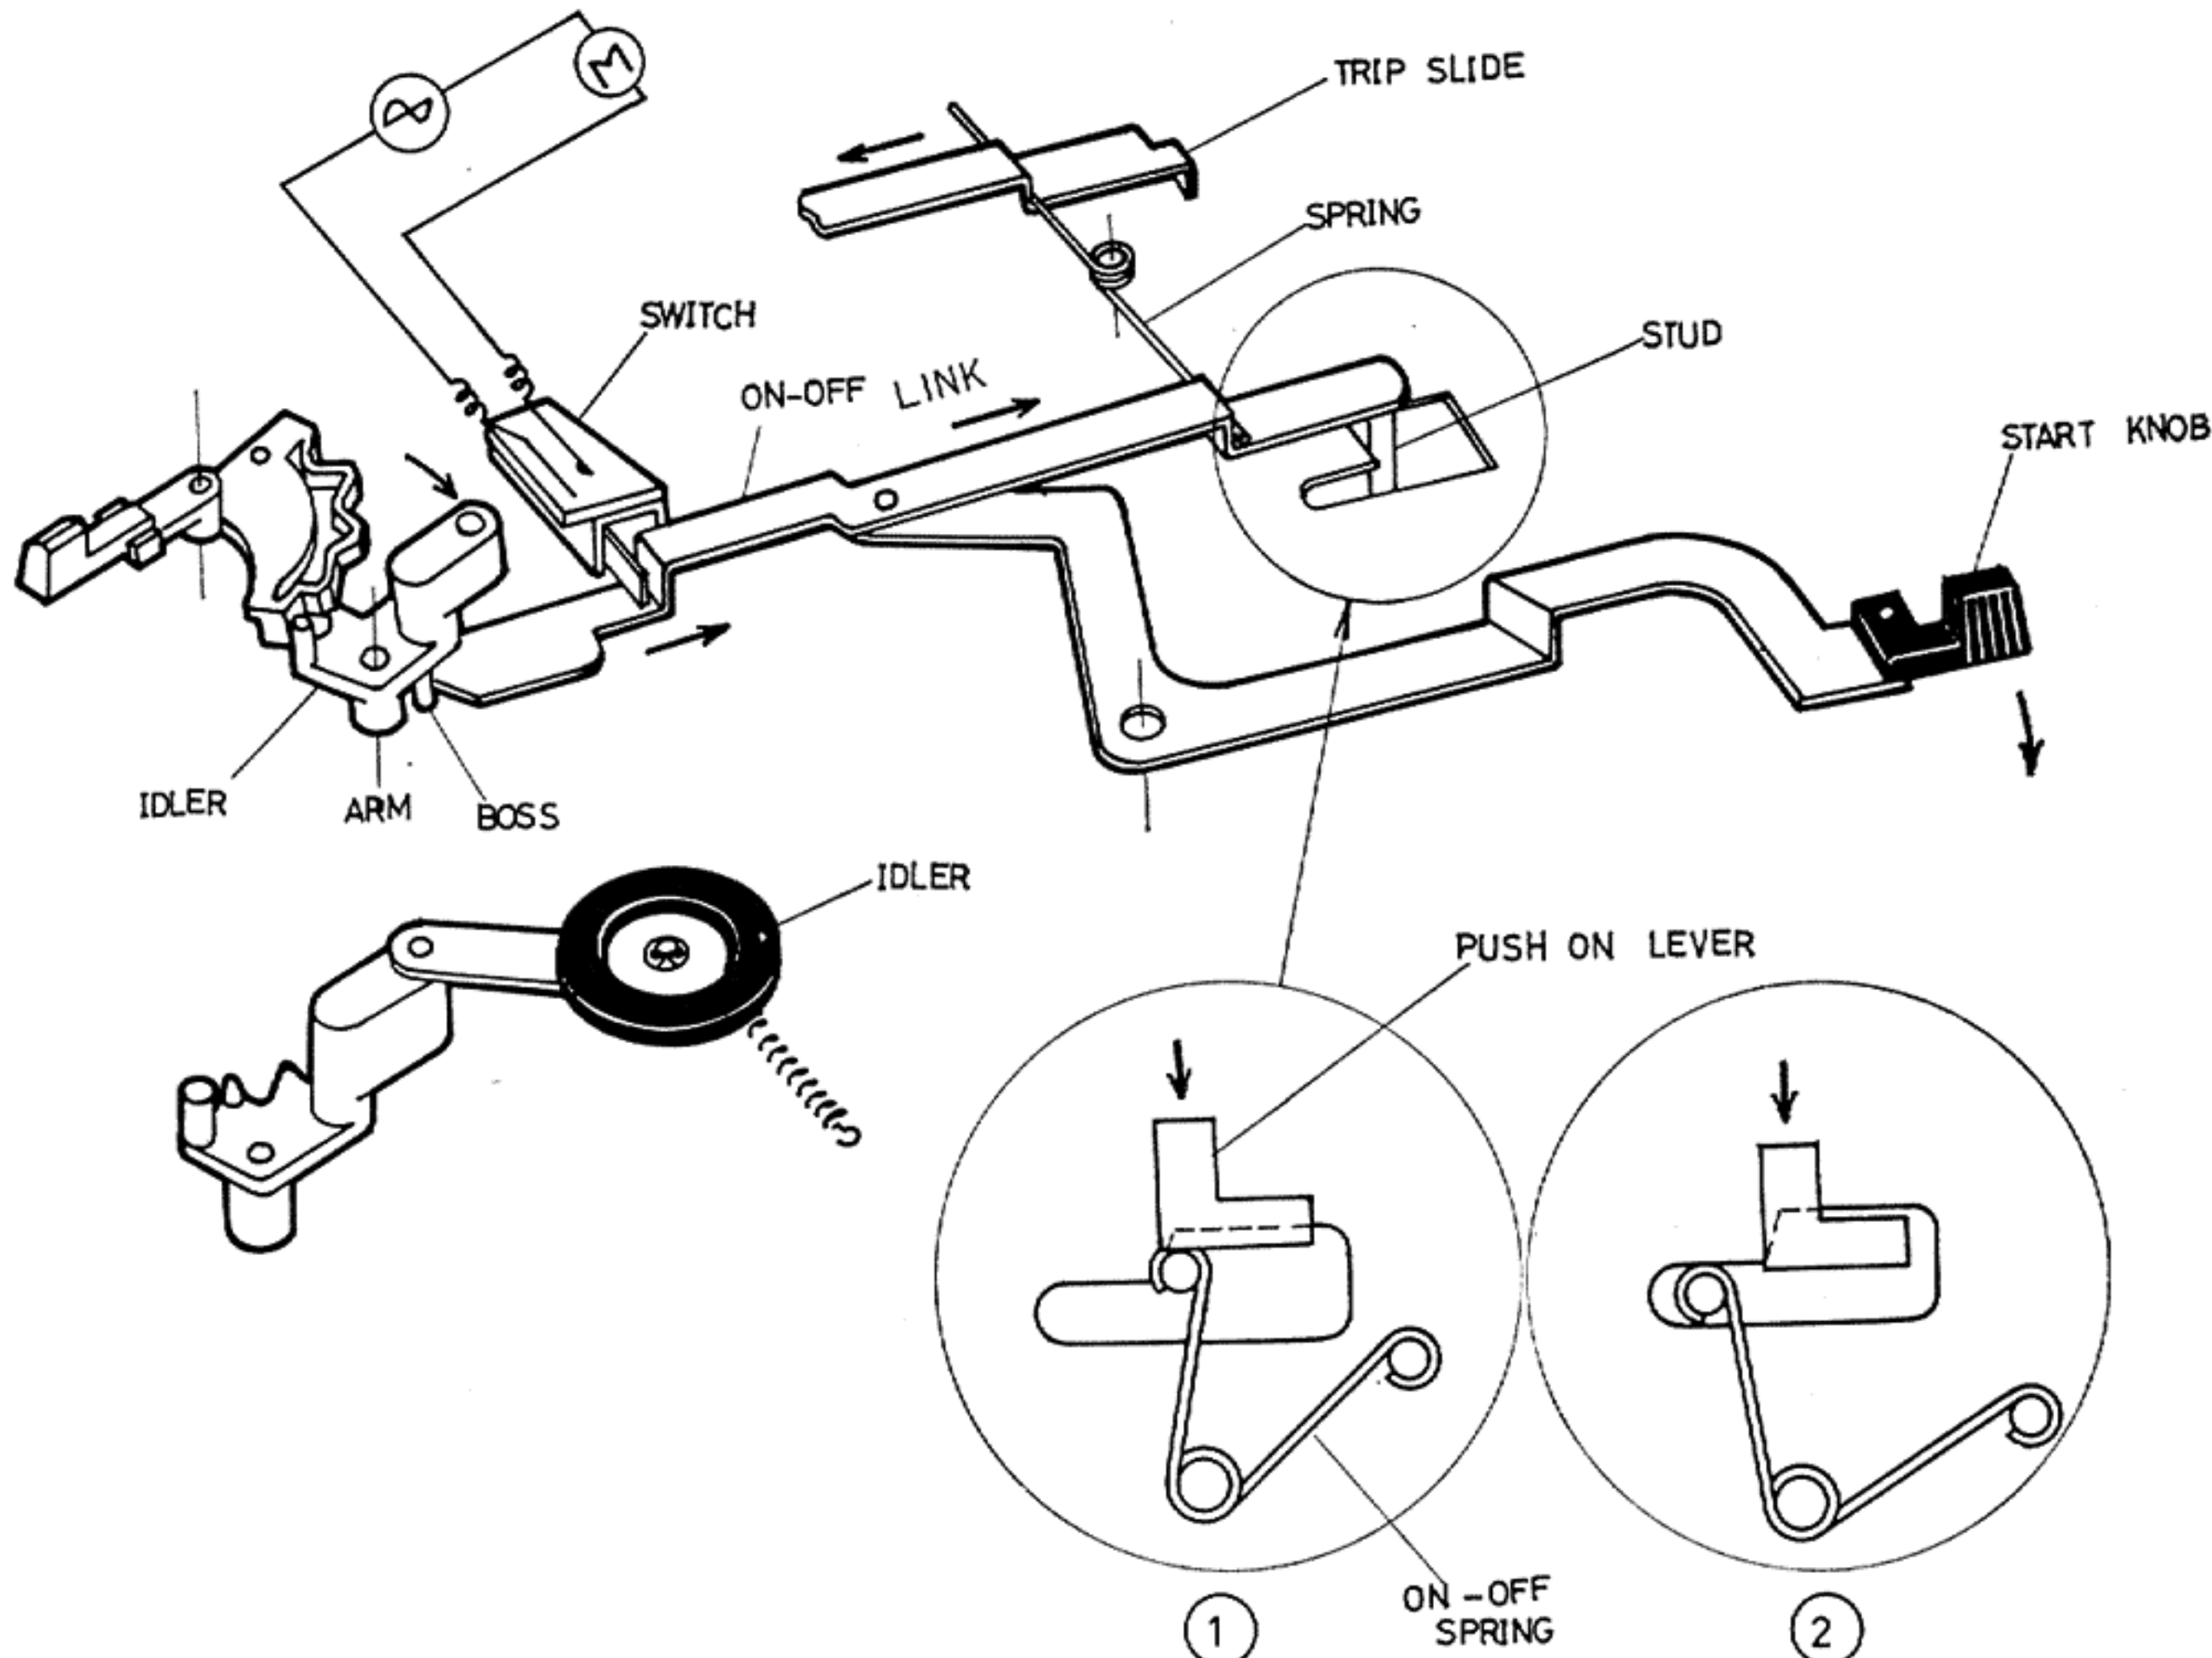

Fig. 5
START (Fig. 5)
- d. ① and ② in Fig. 5 shows the shut-off action of the On-Off Spring.